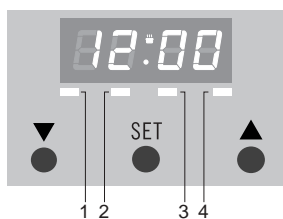

fig. 5
After the appliance has been connected, or when the power supply has been interrupted, the display will show '12.00'. LED 4 is blinking (see fig. 5). The time of day can be set.
- Press 'SET' until LED 1 blinks (see fig. 5).
- Press key ▼ or ▲ until the correct minute minder time has been reached. The set time will stay on the display. LED 1 lights up steadily (see fig. 5).
- Press 'SET' until LED 2 blinks (see fig. 5).
- Press 'SET' until LED 3 blinks (see fig. 5).
LEDs 2 and 3 light up steadily (see fig. 5). The time of day will be displayed. The oven gives a signal when the set time has been reached and automatically switches off.